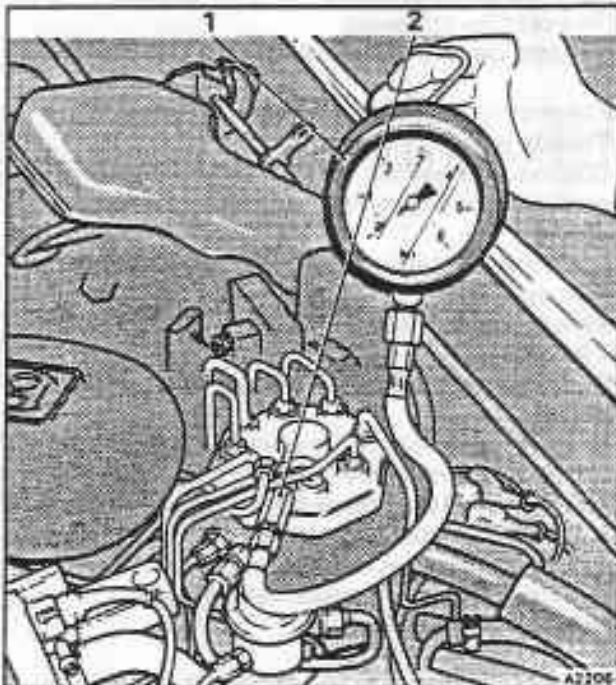

Fig. B3-34 Pressure tester equipment – testing for leaks or primary system pressure
The pressure tester equipment (see figs. B3-34 and B3-35) should be connected into the cold start injector feed line, on top of the fuel distributor or the lower differential pressure valve tapping point.
- a. Fuel system leakage either internal or external (see fig. B3-34).
- b. Primary system fuel pressure (see fig. B3-34).
5. The pressure gauge may now be connected to the fuel distributor as shown in either figure B3-34 or B3-35. Ensure that all pipe nuts and unions are tight.